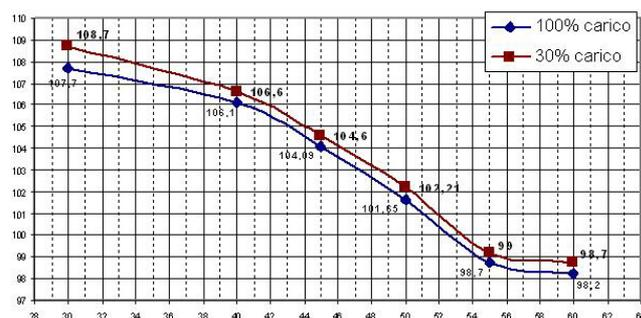

Figure 2
- Condensing exchanger with efficiency until 108.7% (see Figure 2);